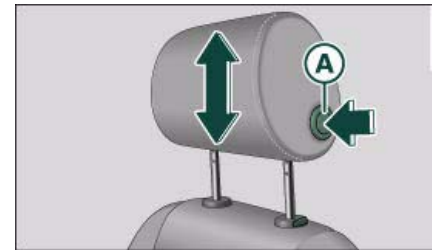

Fig. 79 Front seat: Adjusting head restraint
- Press button **A** ⇒ fig. 79 and push the head restraint downwards.